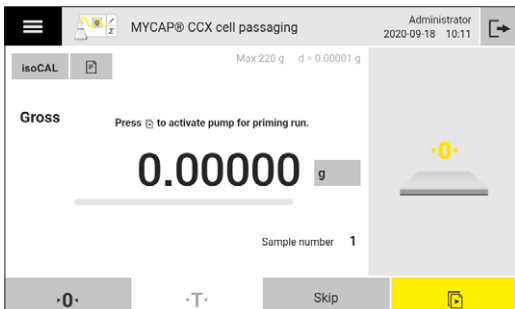

Figure 21: Screen to start priming run. The start button is highlighted yellow
4. Activate priming step on Cubis® II MCA Balance touchscreen (see Figure 21)